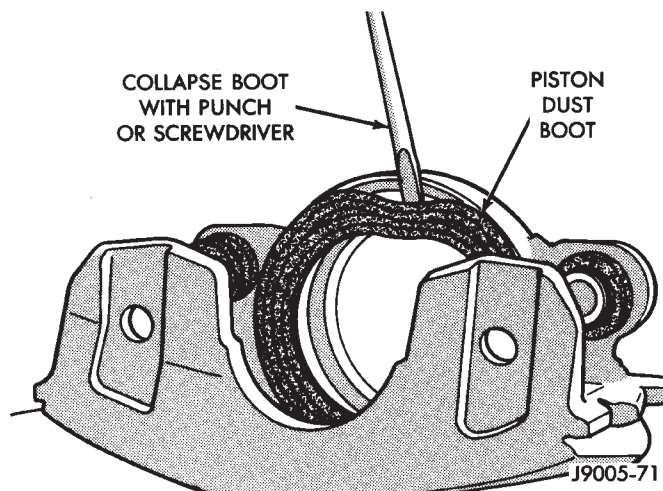

Fig. 14 Removing Caliper Piston Dust Boot
- (4) Remove caliper piston dust boot (Fig. 14). Collapse boot with suitable tool and remove and discard boot.